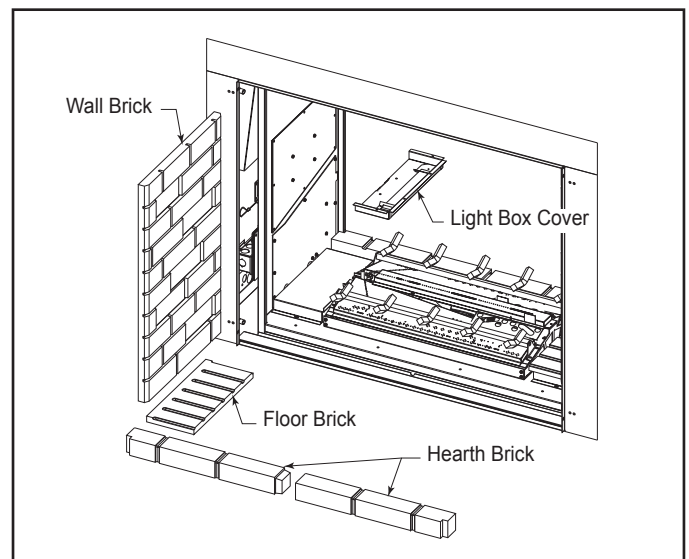

Figure 10.9 Install Brick
4. Place the wall brick panels against the firebox walls, setting on the floor and hearth bricks. The wall brick will be held in place by the brick retainer tab on the light box cover. See Figure 10.9.